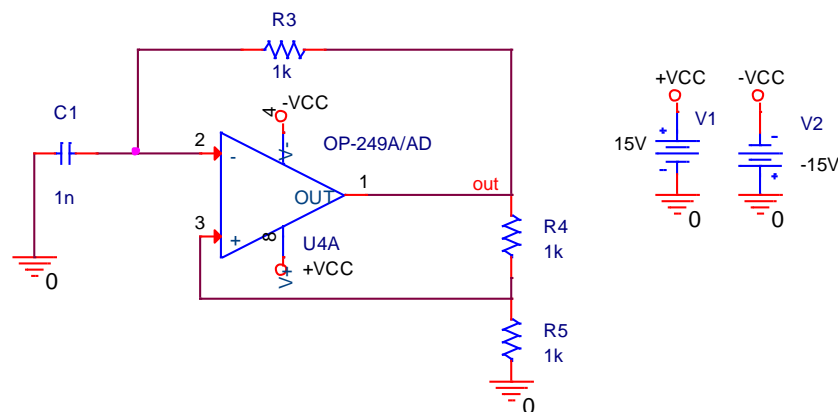

Figure 1- Astable multivibrator (Positive feedback comparator)
uncontrollably between its positive, $+V(\text{sat})$ and negative, $-V(\text{sat})$ supply rails whenever the input voltage being measured is near to the reference voltage, V_{REF} , as in Graph 1. In figure 1, V_{REF} is the voltage divider between R4 and R5, and it's value can be computed using formulas (1) and (2).